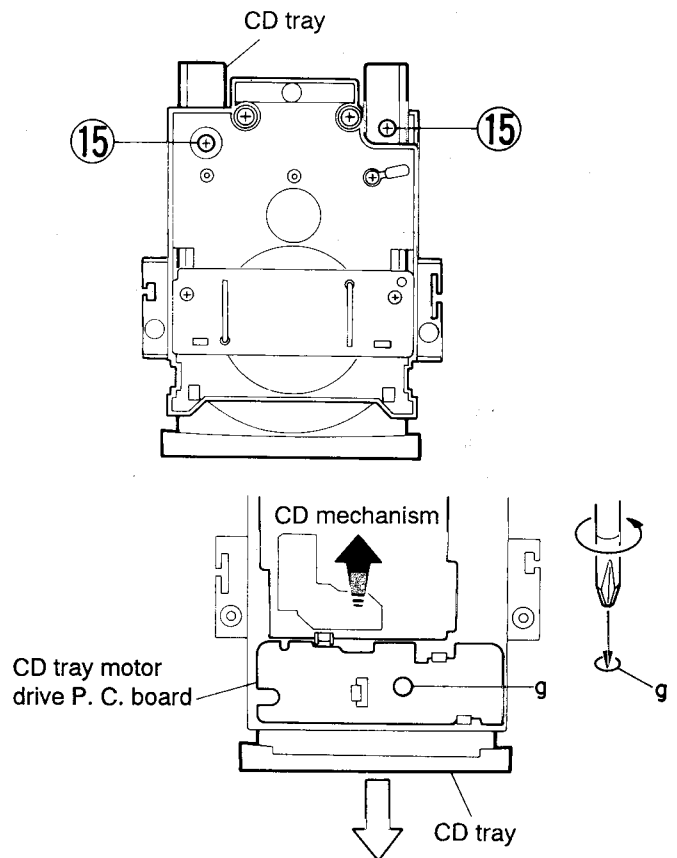

Fig. 5-13
**How to Remove the CD Tray** (Refer to Fig. 5-13)
5. Remove the two screws (15) playing a role of CD tray stopper.